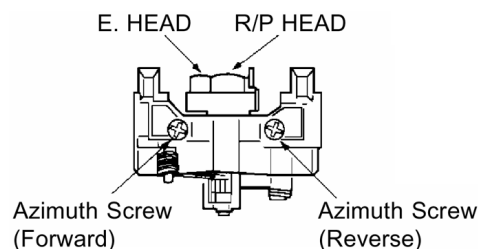

Fig. 3
3. Playback the azimuth adjustment portion(8kHz, -20dB) of test tape(QZZCFM). Adjust the azimuth adjusting screw until the outputs of the L/Rch are maximized. (Refer to Fig. 3)
4. Confirm that the reading of the laser power meter is within the standard value. If the value is out of the range, adjust VR1. (Fig. 3)
6. Adjust VR1 until reading the standard value. (Fig. 3)